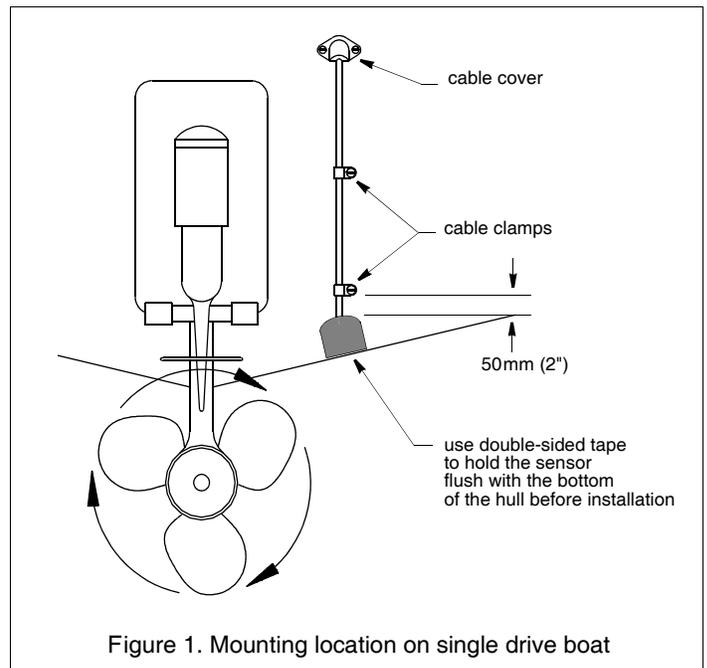

Figure 1. Mounting location on single drive boat
- **Single drive boat**—Mount at least 75 mm (3") beyond the swing radius of the propeller (see Figure 1). The starboard side where the propeller blades are moving downward is preferred.
2. At the selected location and FLUSH with the bottom of the hull, stick the double-sided tape to the transom (see Figure 1). Peel off the remaining non-stick layer.
1. If a hole must be drilled, choose a location **well above the waterline** (see Figure 1). Check for obstructions such as trim tabs, pumps, or wiring inside the hull. Mark the location with a pencil. Drill a hole through the transom using the appropriate size bit to accommodate the connector.